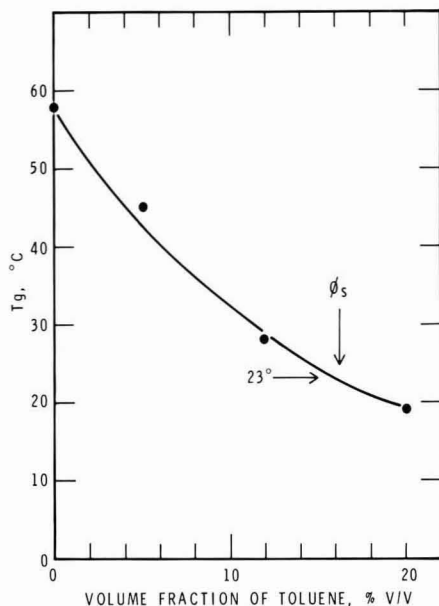

Figure 3a—Depression of  $T_g$  in PIBM by retained solvent, toluene
These new values correspond to glass transition temperatures of 33°C (PIBM) and 28°C (PS) derived from Figures 3a and 3b, which show the relationship between  $T_g$  and solvent volume fraction,  $\phi$ , determined previously.2 The differences,  $\Delta T$ , between the foregoing values and ambient temperature are 10°C (PIBM)
and 5°C (PS), which might be construed as measures of the effective width of the two glass transitions. The  $\Delta T$  are more correctly a reflection of the steepness of the curves in *Figures 3a* and *3b*, which represent the internal kinetics of the polymer-solvent system.